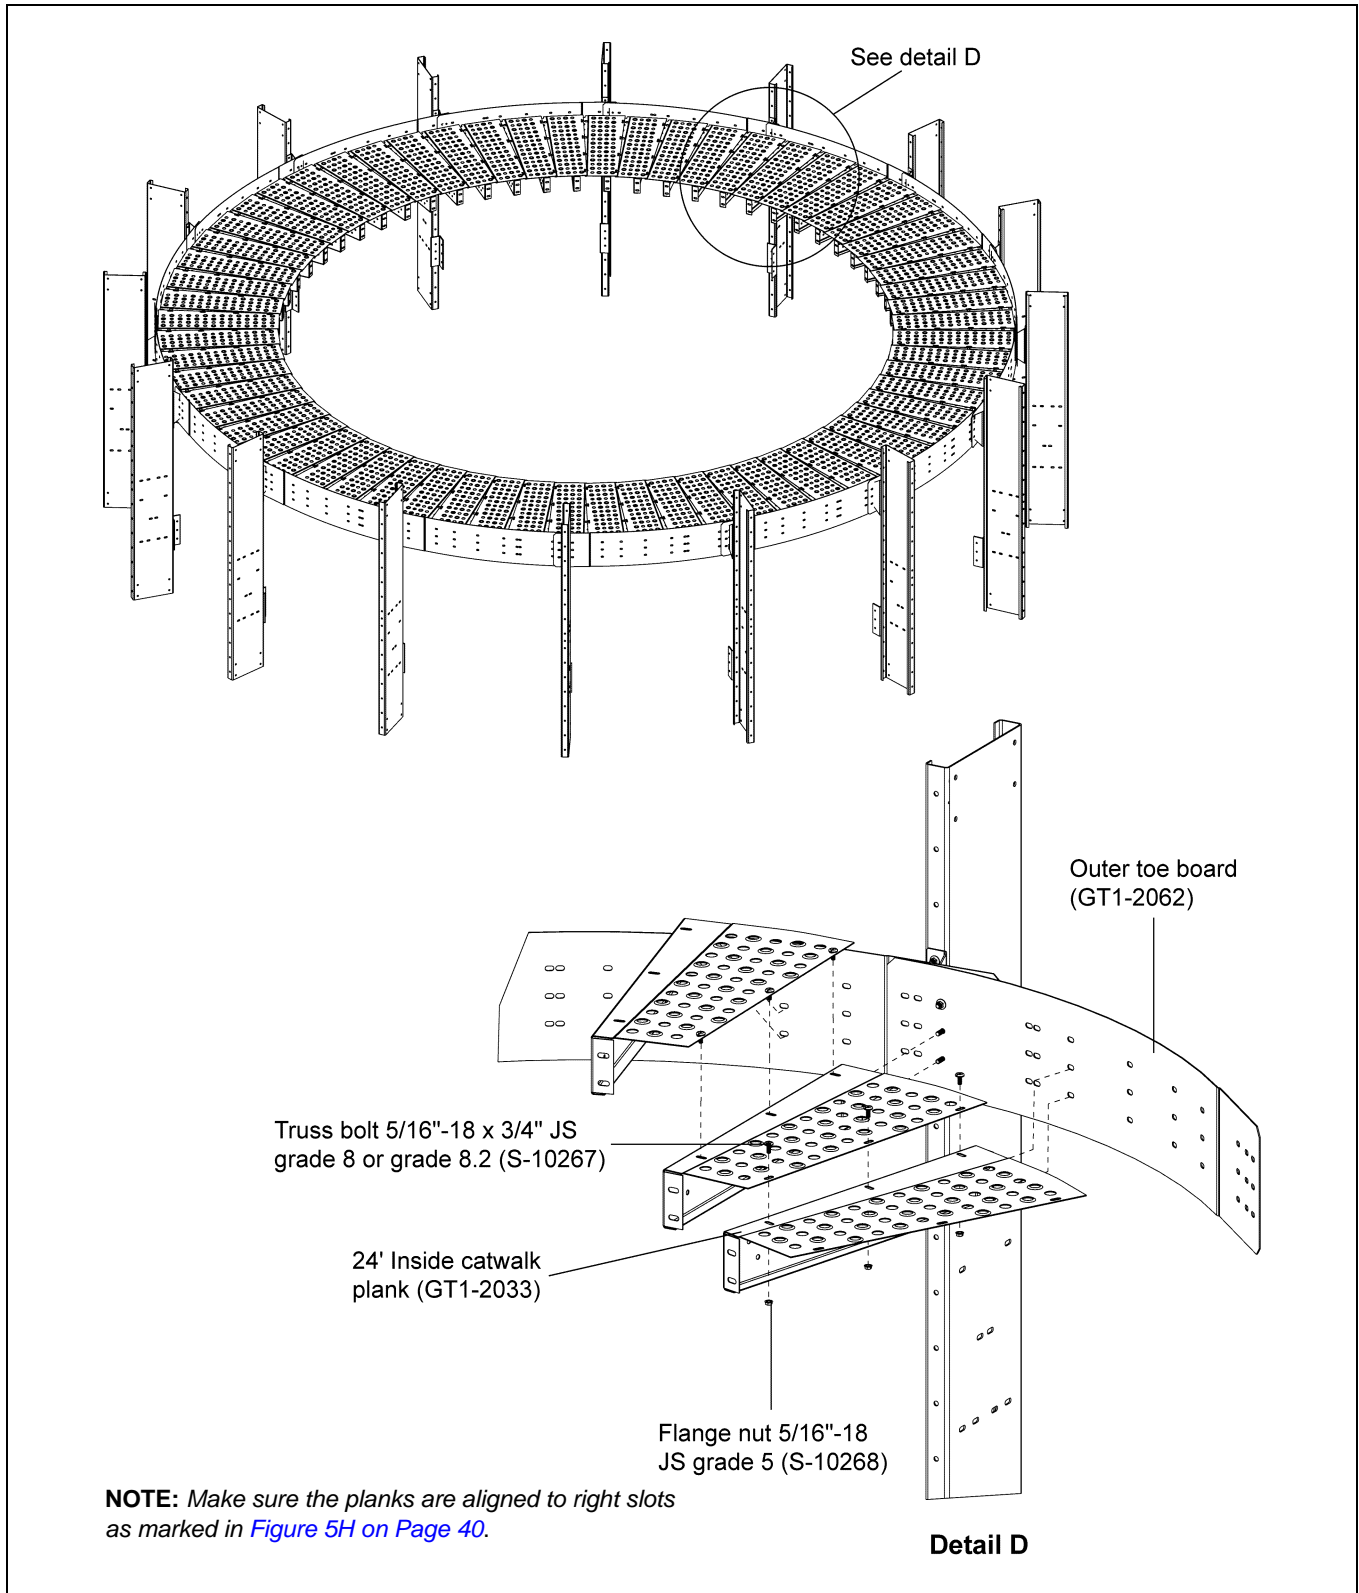

Figure 5F
1. Install the planks (GT1-2033) to the outer toe board (GT1-2062) using 3/8"-16 x 1" JS grade 8 or grade 8.2 bolts (S-7485) and 3/8"-16 ZN grade 5 nuts (S-968). (See Figure 5F.)